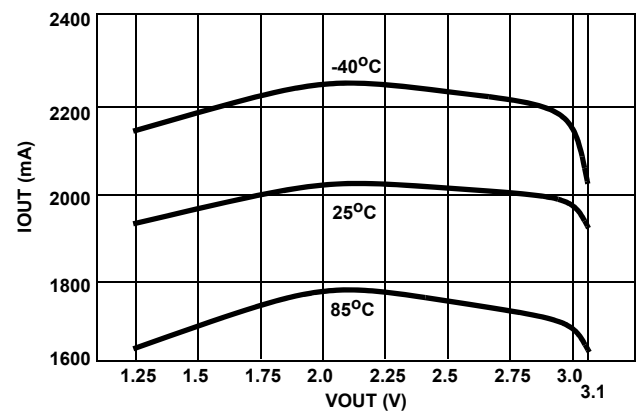

FIGURE 5. CURRENT REGULATION vs VOUT (VIN = 3.3V)
The ISL6121 has integrated current sensing on the power MOSFET that allows for rapid control of OC events. Once an OC is detected the ISL6121 goes into its Current Regulation (CR) control mode. The ISL6121 CR level is set to a nominal 2A. This current regulation is $\pm 20\%$ over the full operating temperature and voltage bias range. See Figures 5 and 6 for illustrative curves.